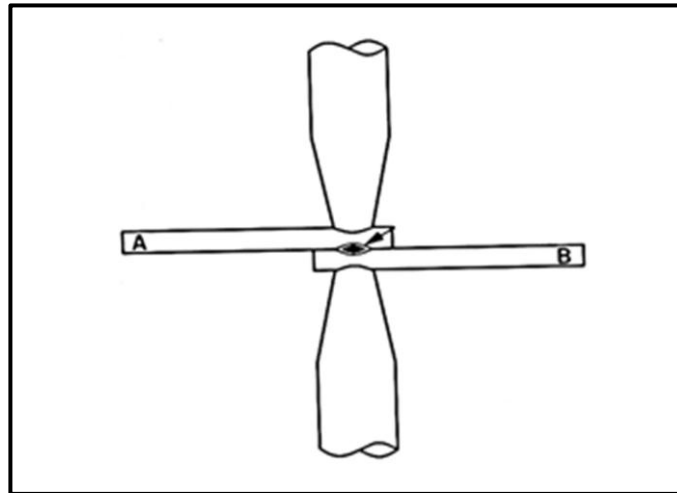

FIGURE 4.5
4.5 Identify the welding process shown in FIGURE 4.5 below: